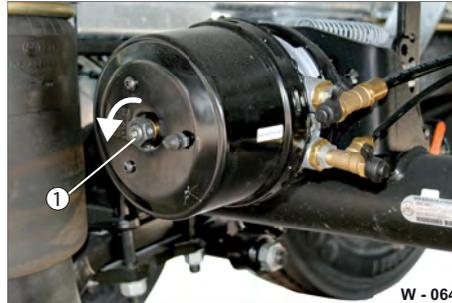

Fig. 64 Releasing parking brake
- ▶ Unscrew the release screw (Fig. 64/1).
- ▶ Screw on the release screw (Fig. 64/1).